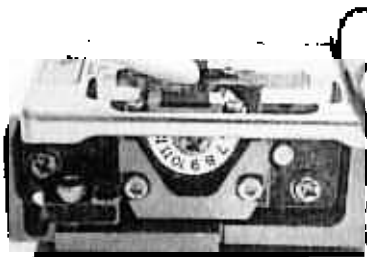

Fig. 12
- (iv) Push the blade down slightly with a cotton swab and ensure that the blade completely fits into the cradle (refer to Fig. 12).